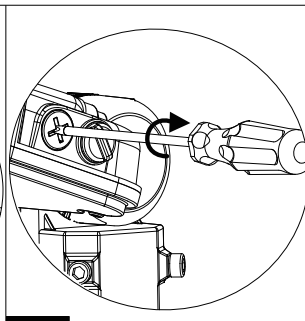

Fig.23
- Put the philips screw cover back and tighten it by screwdriver (Fig.23).